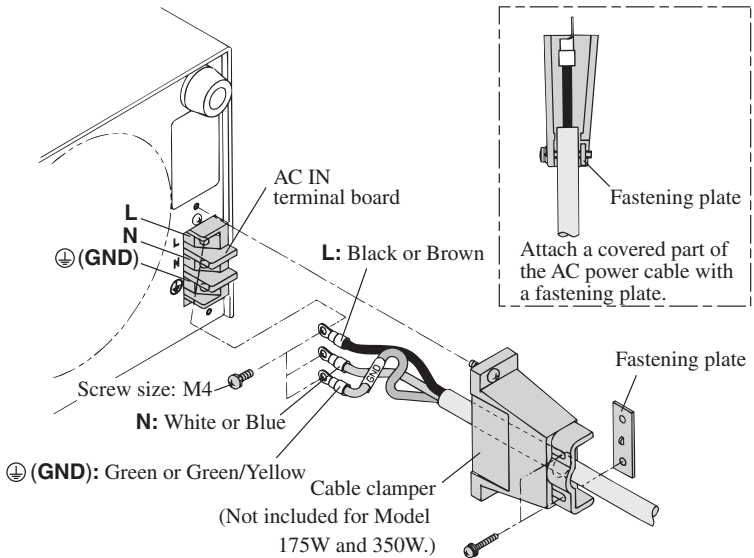

Fig.1-10 Connection of AC power code
1. Connect the supplied AC power code to the terminal board as shown in Fig.1-10.
- NOTE** • Fig.1-10 shows the connections on the model 700W. Connections on model 1000W can be performed in the same manner.